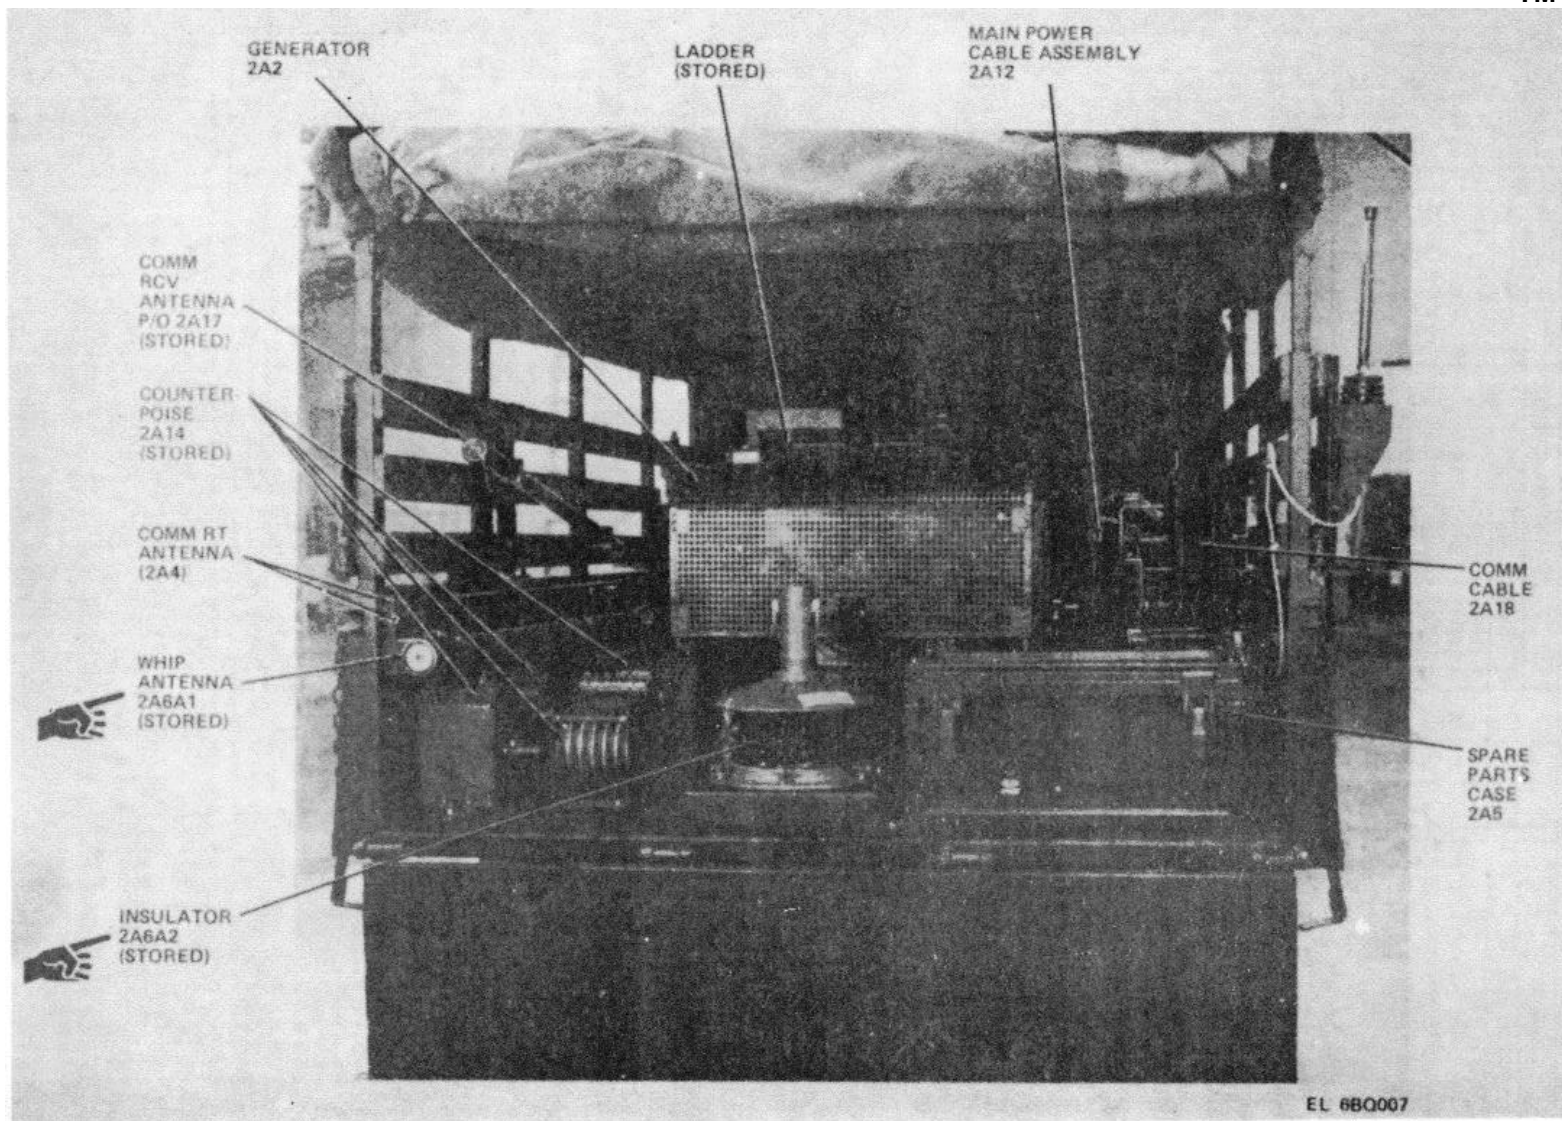

Figure 1-6. Trailer, rear view
(5) *Insulator* (fig. 1-6). The insulator serves the dual purpose of insulating the whip antenna from the shelter while also providing the antenna supporting socket and latching device. The insulator has captive thumbscrews which secure it to the shelter roof or its storage base in the trailer.
(7) *Counterpoise* (fig. 1-6). The counterpoise consists of four assemblies, each assembly having six crank operated take-up reels with metal cables. When not in use, the counterpoise is stored in special racks in the trailer.
(12) *Remote telephone junction box*. The remote telephone junction box is a triangular shaped box equipped with a toggle switch and binding posts for attaching to a telephone line; the remote telephone junction box is stored in the spare parts case (fig. 1-6) in the trailer.